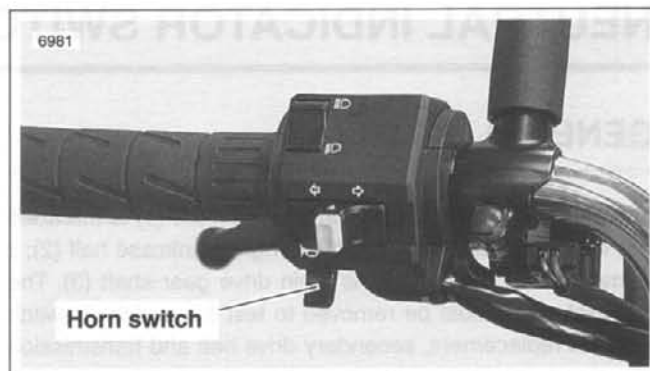

Figure 7-75. Horn Switch
3. See Figure 7-75. Depress horn switch and observe voltmeter reading.